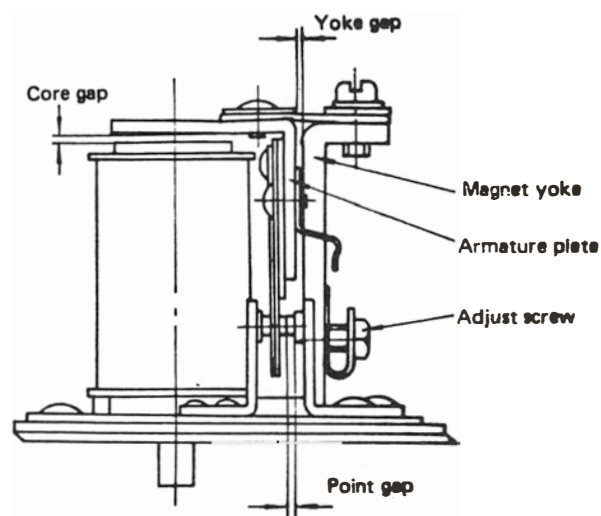

Figure 18
2. Start the engine and adjust the field relay adjusting screw, Figure 18, so that when the engine rpm is increased, there is a voltage level of 3-4 volts on the voltmeter and the field relay point is closed and a current of approximately 1 ampere is registered on the ammeter.